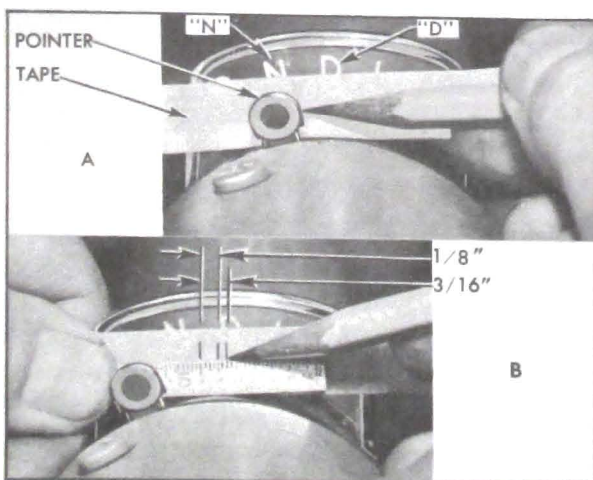

Figure 10-30—Marking Tape for Checking Switch Timing
5. With transmission control firmly engaged in Neutral detent, make a pencil mark on masking tape at *right edge* of speed ratio dial pointer, then make two marks on tape at $\frac{1}{8}$ " and $\frac{3}{16}$ " to right of the first mark. See figure 10-30.
6. Move control lever to driving (D) position, turn ignition on and depress accelerator pedal to close accelerator vacuum switch.